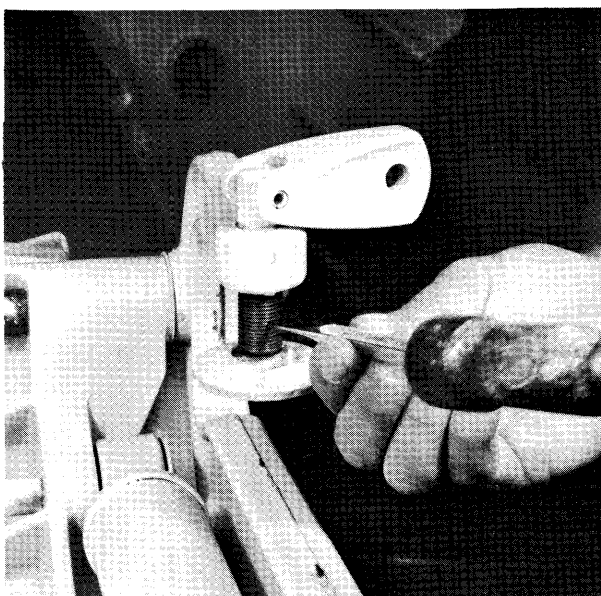

Figure 3—Driving Out Spring Pin
- B. Drive out spring pin securing clamp screw stud and foot to clamp screw as shown in figure 3 and remove stud and foot.